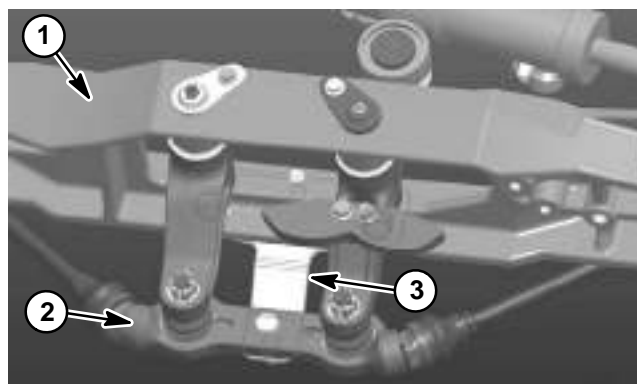

Figure 8
7. Secure rear alignment tool (see Special Tools in this chapter) to rear axle and center link (Fig. 8). If necessary, use steering wheel to align rear steering components with alignment tool before securing tool to machine.